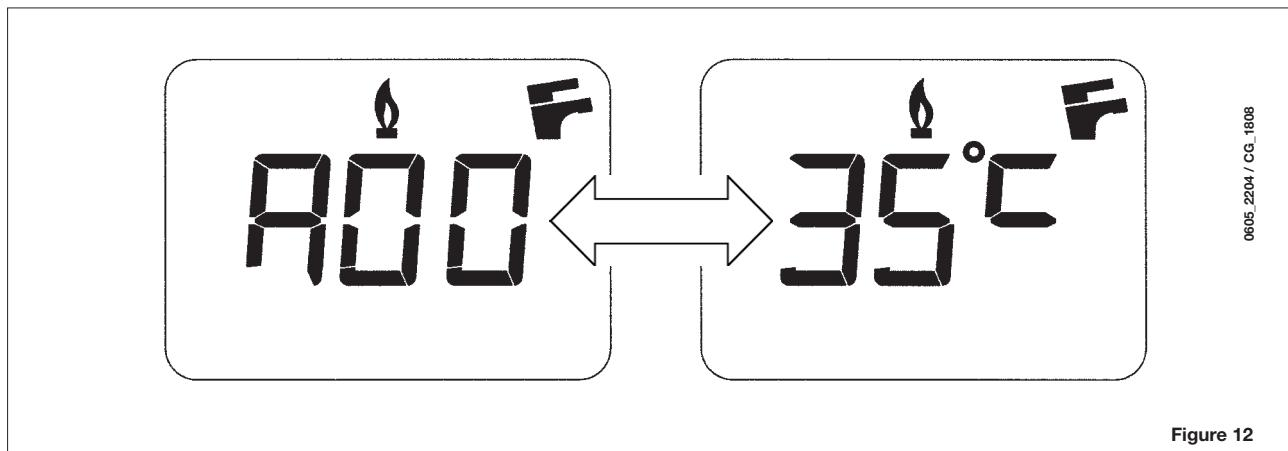

Figure 12
N.B: when the "INFO" function is enabled, the message "A00", alternating with the boiler delivery temperature, is shown on the display (figure 12):